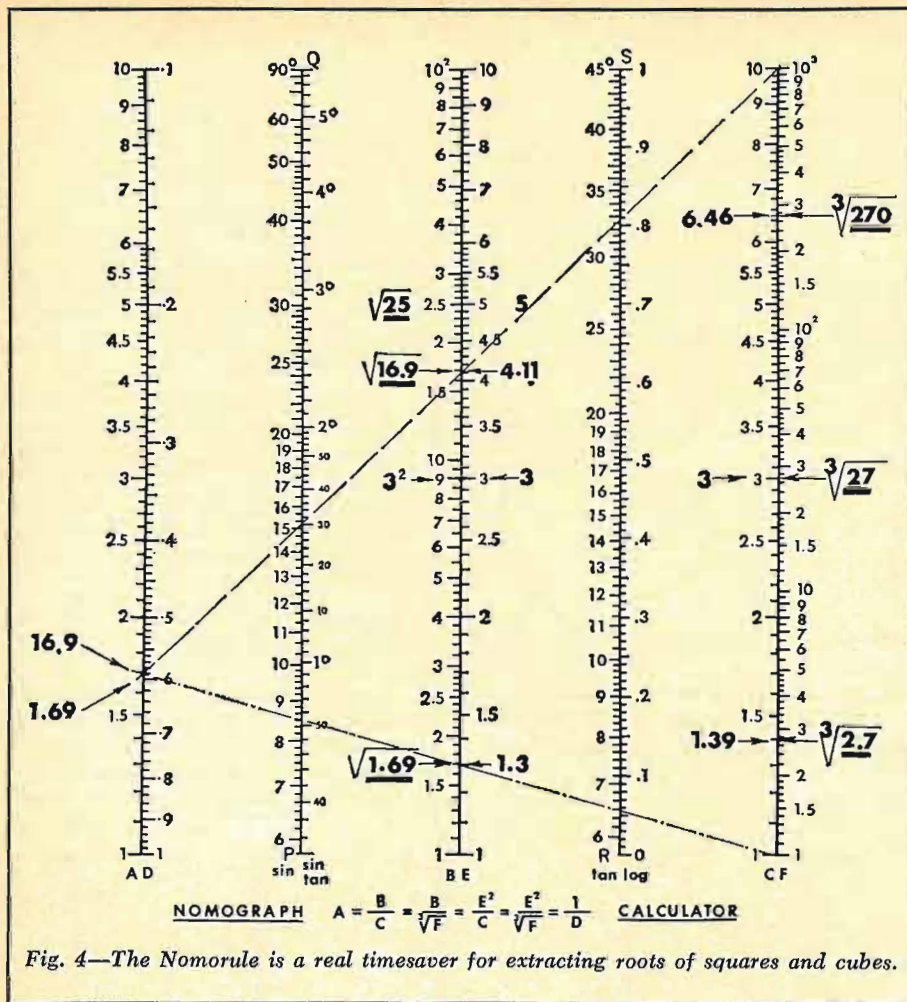

Fig. 4—The Nomorule is a real timesaver for extracting roots of squares and cubes.
Squares and square roots are read directly from scales B and E. Fig. 4 shows that $\sqrt{25} = 5$, and that $3^2 = 9$. Now let us find $1,200^2$. Write $1.2^2 \times (10^3)^2 = 1.44 \times 10^6 = 1,440,000$. To find $.003^2$, write $3^2 \times (10^{-3})^2 = 9 \times 10^{-6} = .000009$.
Squares may also be found by using scales A and E in conjunction with point 1 (C). For example, the dot-dash line (Fig. 4) shows that $\sqrt{1.69}$ (A) = 1.3 (E). The reason? We know that $A = B/C$ and that $B = E^2$. Then $A = E^2/C$. When $C = 1$, $A = E^2$ directly. The same figure shows $4.11^2 = 16.9$, if we use 10 (C) as pole. We have used the equation $A = E^2/10$ in this case, so the answer on A (1.69) must be multiplied by 10 to arrive at the correct solution, 16.9.